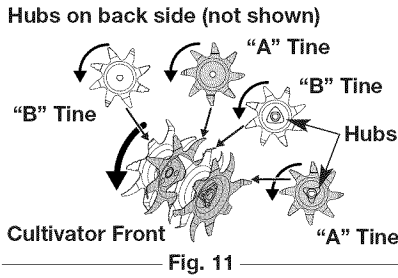

Fig. 11
- When you are reinstalling tines, lay out the tines and compare them to those shown in Figure 11. Note specifics about each tine: its hub, curvature and lettering ("A" or "B"). This will help make sure that you are placing the correct tines in the correct order.
**NOTE:** If you look closely, you can see a slight curvature in the tine tips. These curves should point toward the front of the cultivator when the tines are installed. Figure 11 shows the curve in each tine.